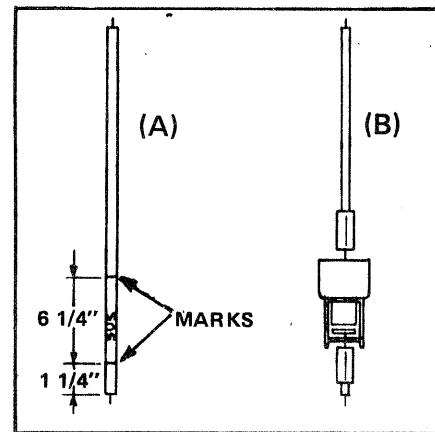

FIGURE 6-10 Measure and mark the Dowel as shown in (A) and assemble as shown in (B).
- A. Measure 1-1/4" from the labelled end of the SUS Dowel and mark the Dowel at that point, then measure 6-1/4" from the mark and mark the Dowel again as shown in FIGURE 6-10 (A).
- B. Cut the Dowel at the marks, then insert the SHORT piece in the metal coupler and the LONG piece in the nylon coupler on the Solenoid as shown in FIGURE 6-10 (B). See the NOTE below Point D of this Step on the next page.